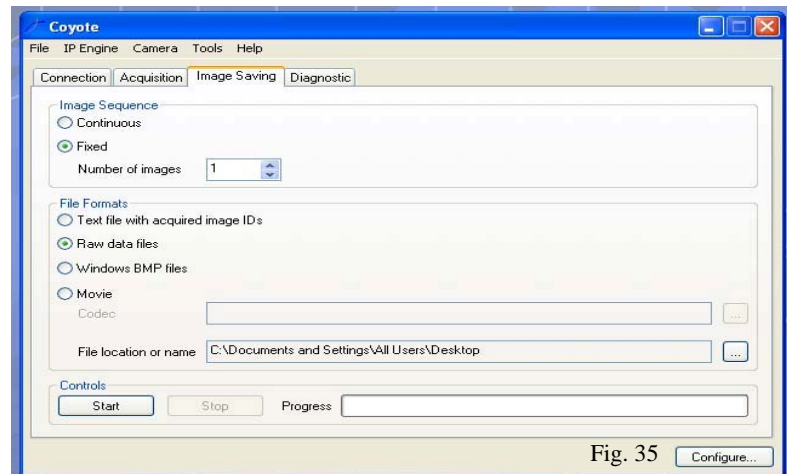

Fig. 35
- **Window bitmap** is convenient but limited to 8-bit (or 24-bit color). (Fig. 35).